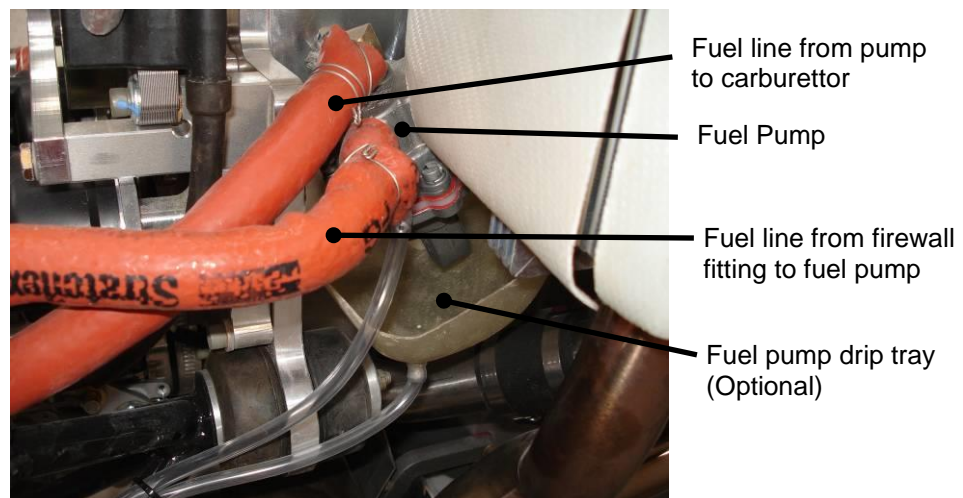

Figure 27. Mechanical Fuel Pump
- Some airworthiness categories also require an additional drip tray be fitted to the fuel pump. This optional tray is shown in Figure 27.
- All hoses forward of the firewall require fire resistant sheathing (visible as an orange covering on the fuel lines in Figure 27 above). Note that wherever possible the sheathing should be extended past the hose clamp. The ends of the sheath must be held in place using safety wire to prevent the sheathing moving and exposing the fuel line.